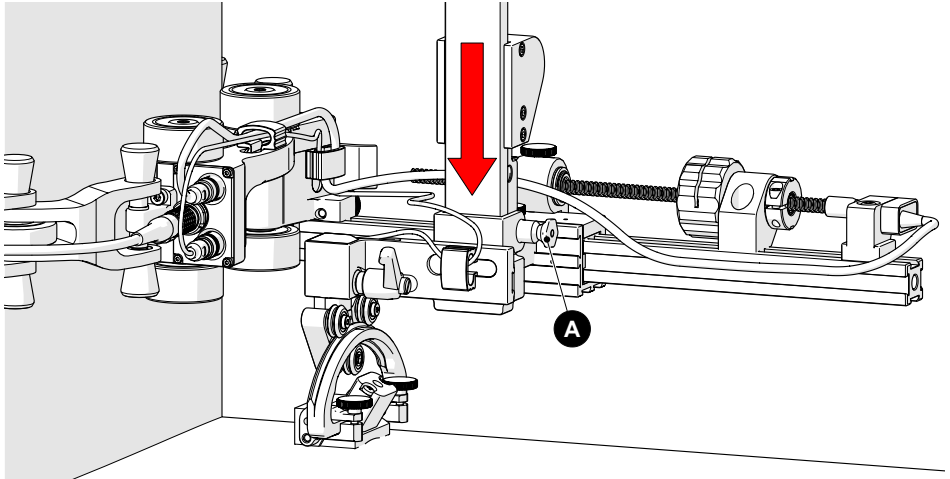

Fig. 101 - Lower probe holder to scan surface
8. Pull the probe holder latch pin (Fig. 101-A) to release the probe holder from the locked position (see *Latch Pin* on page 26 for more information).